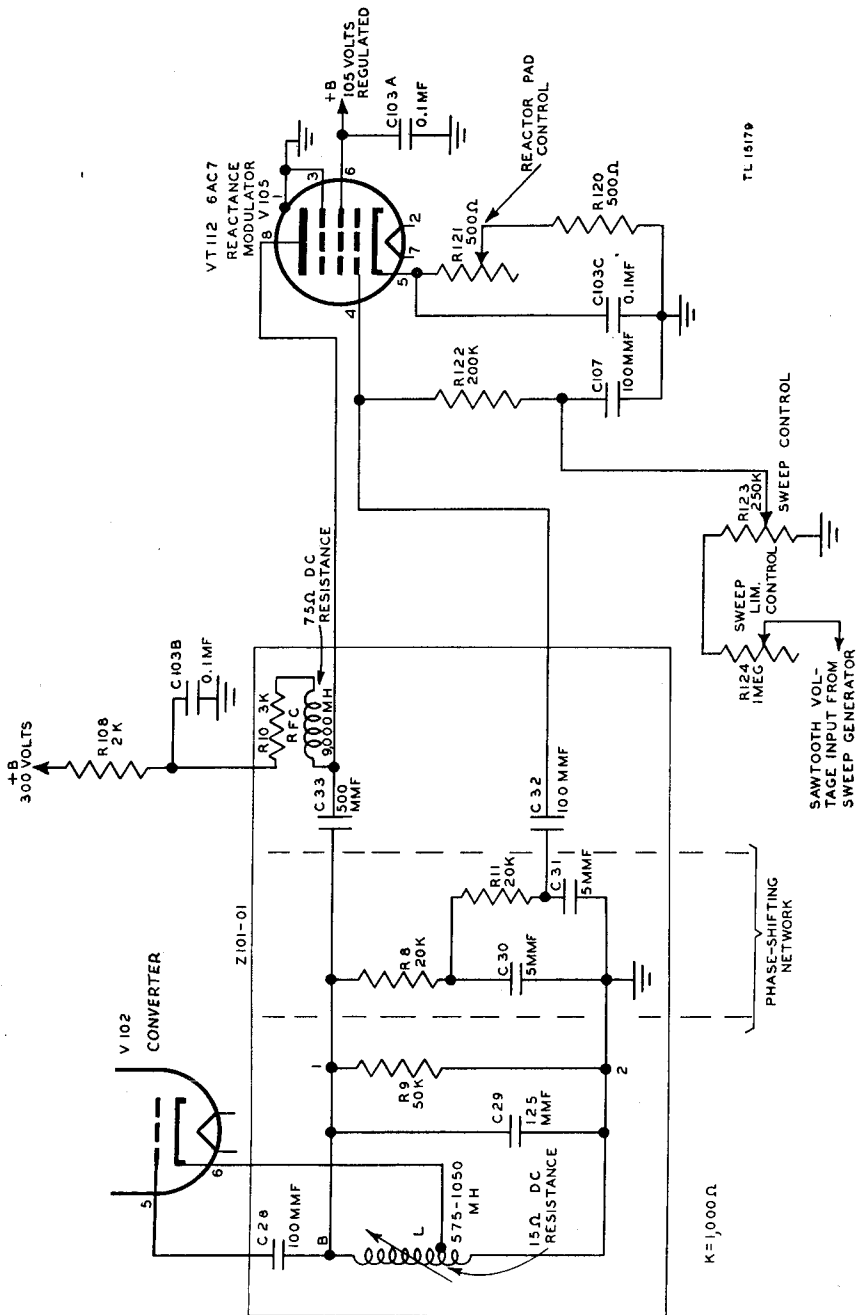

Figure 17. Simplified schematic diagram of reactance modulator.
## 16. REACTANCE MODULATOR (fig. 17).
**c. Circuit of Reactance Modulator.** Figure 17 shows a simplified schematic diagram of the reactance modulator used in Panoramic Adaptor BC-1031-A. All other models of adaptors use a similar circuit.
(1) The reactance modulator tube (V105) operates as a class A amplifier and is so biased by the voltage drop across the cathode resistors R121 and R120. Capacitor C103C is a cathode bypass capacitor.
(4) Tank voltage across points 1 and 2 in figure 17 causes a cor-